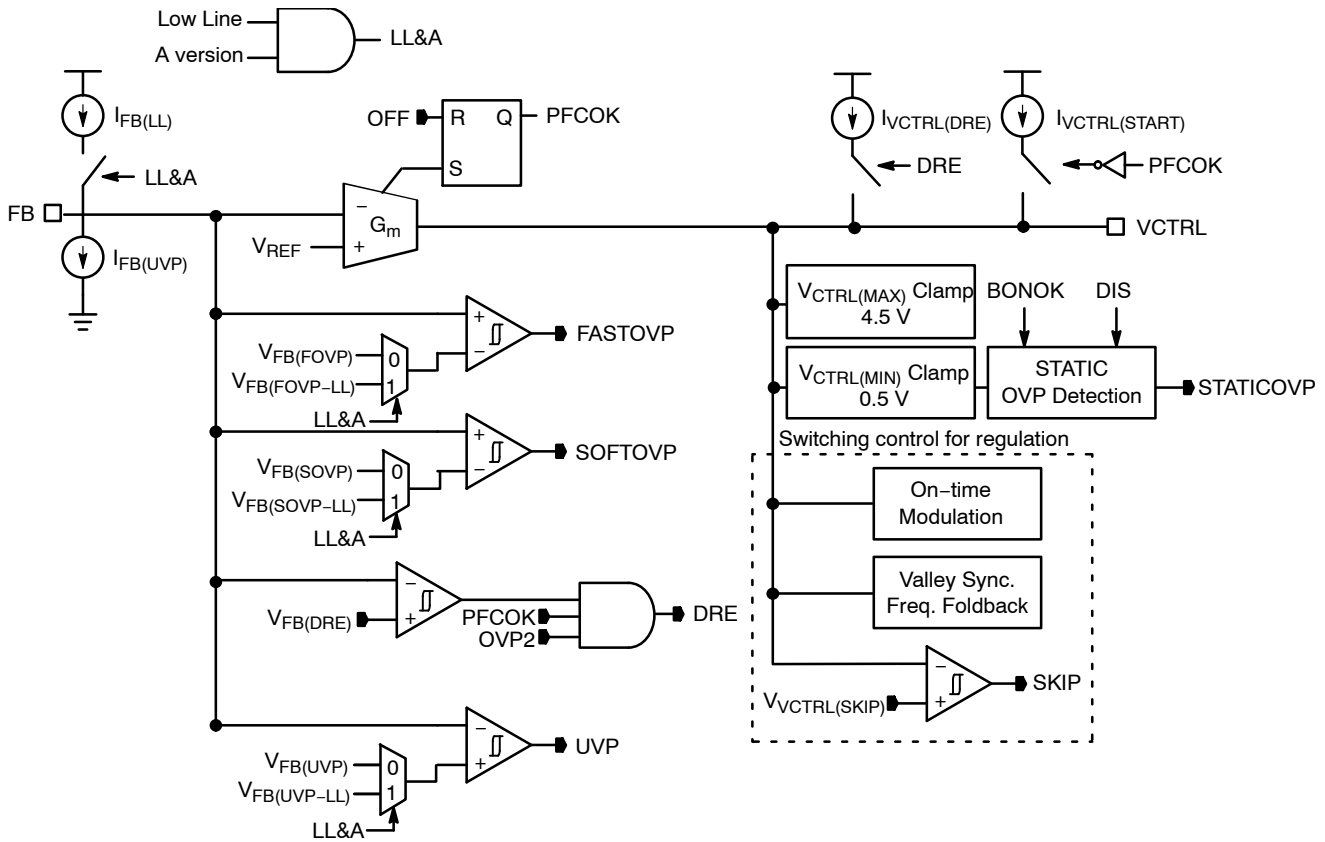
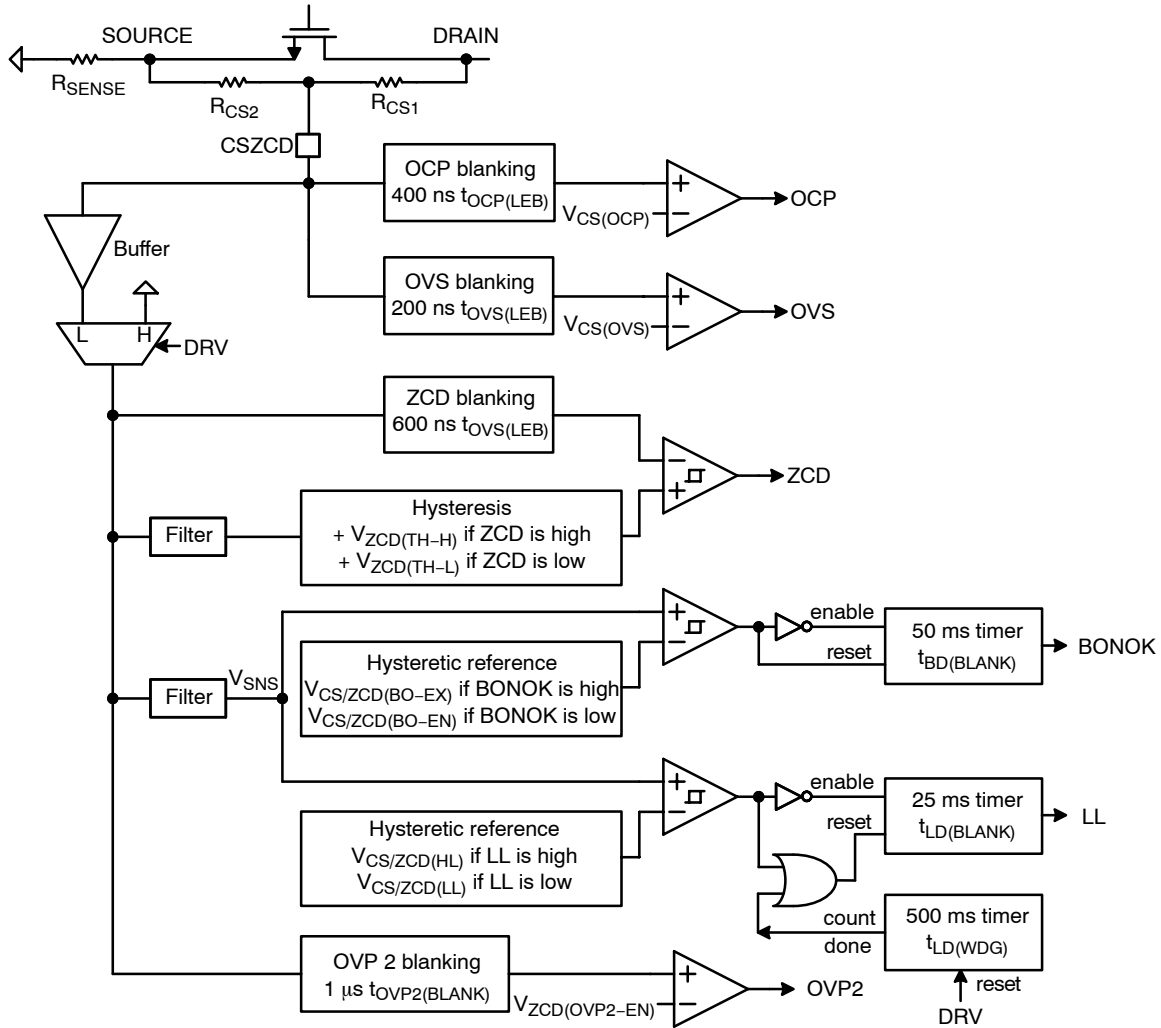

Figure 6. Feedback Regulation and Transient Control
Figure 7. CS/ZCD Internal Circuit Block
A trans-conductance error amplifier (OTA) with access to the inverting input and output is provided as shown in Figure 6. It features a FB reference voltage for output voltage regulation of 2.5 V, a typical trans-conductance gain of 200 μS and a maximum capability of about $\pm 20 \mu\text{A}$ OTA output current. The VCTRL pin is the output of the error amplifier for external loop compensation. Typically, a type-2 network is applied between the VCTRL pin and ground to set the regulation bandwidth below about 20 Hz. VCTRL basically controls turn-on time, dead time in VSFF, skip mode and STATICOV:
The NCP1623 embeds a “Dynamic Response Enhancer” (DRE) that deals with the under-shoots of the output voltage at abrupt increases of the load current. An internal comparator monitors the FB pin and when this voltage is lower than $95.5\% V_{REF}$, a $200 \mu A$ $I_{VCTRL(DRE)}$ is sourced to speed up the charge of the compensation network as shown in Figure 6. Effectively this appears as a 10x increase in the loop gain. DRE is disabled during the start-up sequence until the PFC stage has stabilized and PFCOK is high. DRE is also disabled when the OVP2 (Second Over Voltage Protection) is triggered.
In case of output over-shoots, soft OVP is firstly triggered by comparing FB voltage and a soft OVP threshold, $V_{FB(SOVP)}$ as in Figure 6. Once the soft OVP is triggered, the turn-on time is gradually decreased in 4 to 5 switching periods to smoothly reduce powering. If FB voltage is even
As illustrated in Figure 7, the CS/ZCD pin provides the input signal for the following functions:
low–line (LL) detection is set longer than a half–line cycle but not that long to quickly detects an abrupt line transient from high to low. When the line changes from low to high and V_{SNS} is over $V_{CS/ZCD(HL)}$, high line mode is immediately entered. When high–line is detected (that is, when signal “LL” of Figure 7 is low), the loop gain, $t_{ON} / (V_{CTRL} - V_{CTRL(MIN)}) \mu s/V$, is divided by about 2.5 to ensure a 2–level feedforward.
As shown in Figure 7, when V_{SNS} is lower than the brown–out enter voltage ($V_{CS/ZCD(BO-EN)}$) for BO blanking time (50 ms $t_{BO(BLANK)}$), BONOK signal is high and the drive is not immediately disabled. Instead, a 30 μA current source ($I_{VCTRL(BO)}$) gradually reduces V_{CTRL} . As a result, the circuit keeps generating DRV pulses until the STATICOVV trips (that is when V_{CTRL} reaches the minimum clamp level, 0.5 V $V_{CTRL(MIN)}$ as shown in Figure 6). This method relieves the risk of input voltage bouncing the fault line detection caused by EMI filter oscillation from an abrupt DRV stop.
Similar to power reducing sequence in brown–out, the drive is not immediately disabled and 30 μA current source gradually reduces V_{CTRL} until the STATICOVV function trips in Figure 6. The DIS sleep mode is maintained until the DIS pin is externally pulled down below the DIS sleep mode exit voltage ($V_{DIS(EX)}$, 0.8 V minimum).